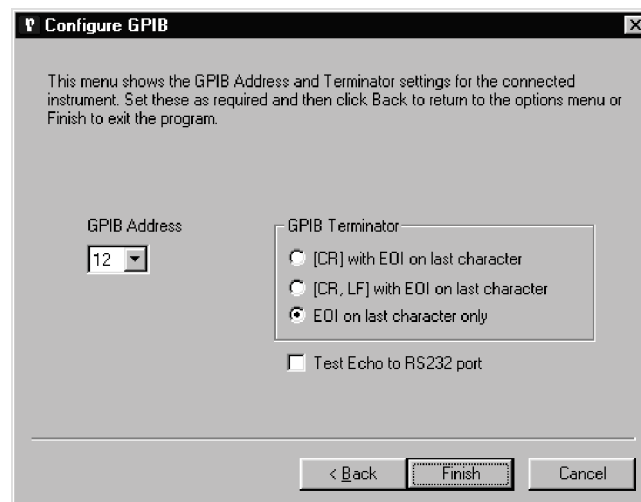

Figure 2-4, Initial Checks Procedure, Configure GPIB Menu
- 9) The instrument is supplied set to a GPIB address of 12 and with a GPIB termination of <CR><LF> character pair. In addition the GPIB line EOI asserted with the last character that is sent. If the unit will be used under GPIB control and if these settings are not acceptable then it is useful to adjust them at this stage. Click the Configure GPIB button to access the Configure GPIB menu, shown below in figure 2-4.